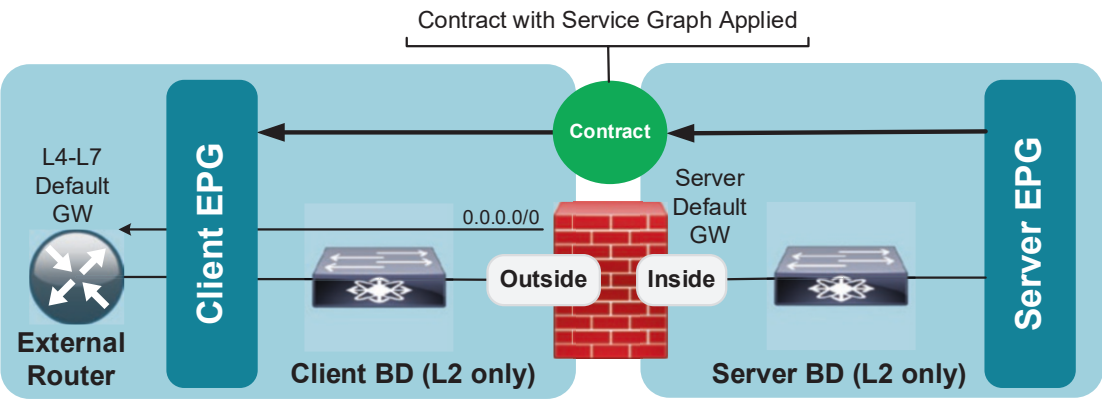

Figure 8-4. Routed L4-L7 node with L2 BDs only
- a. **Routed Mode using L2 Outside Bridge Domain:** The outside interface of the L4-L7 device is connected over the L2 bridge domain to the external router, which provides a default gateway for the L4-L7 device and routes in the opposite way the server segments back to it (see Figure 8-4). BDs can be associated to a single VRF, but just to comply with the ACI object model. No routing inside ACI itself is performed.